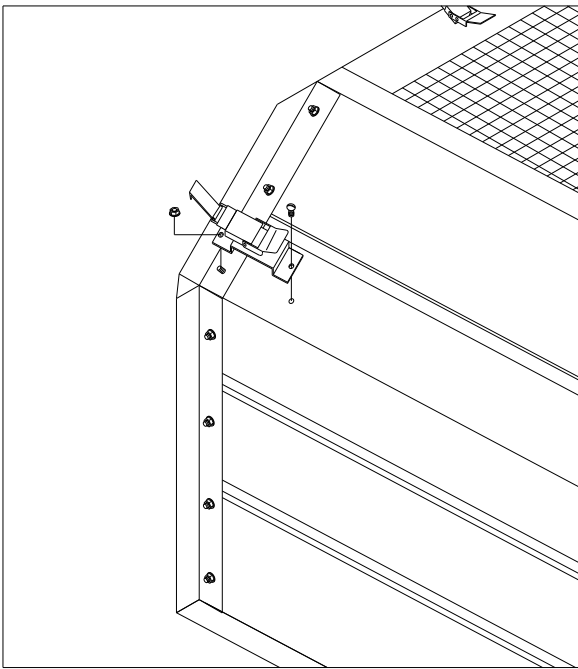

Fig. 3
4. Attach latch bracket with 1/4-20 trusshead bolt & whizlock nut provided. (Fig. 3)